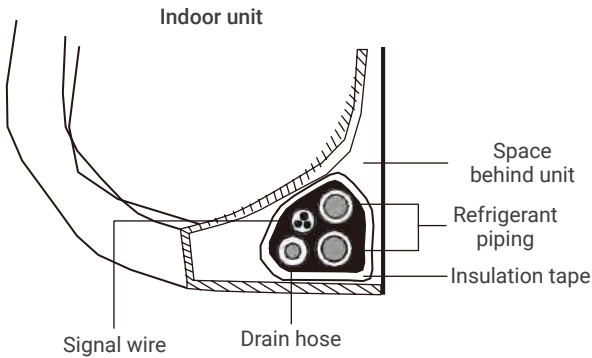

Fig 3.10
1. Bundle the drain hose, refrigerant pipes, and signal cable according to Fig. 3.10.
3. Using insulation tape, wrap the signal wire, refrigerant pipes, and drain hose tightly together. Double-check that all items are bundled in accordance with Fig. 3.10.